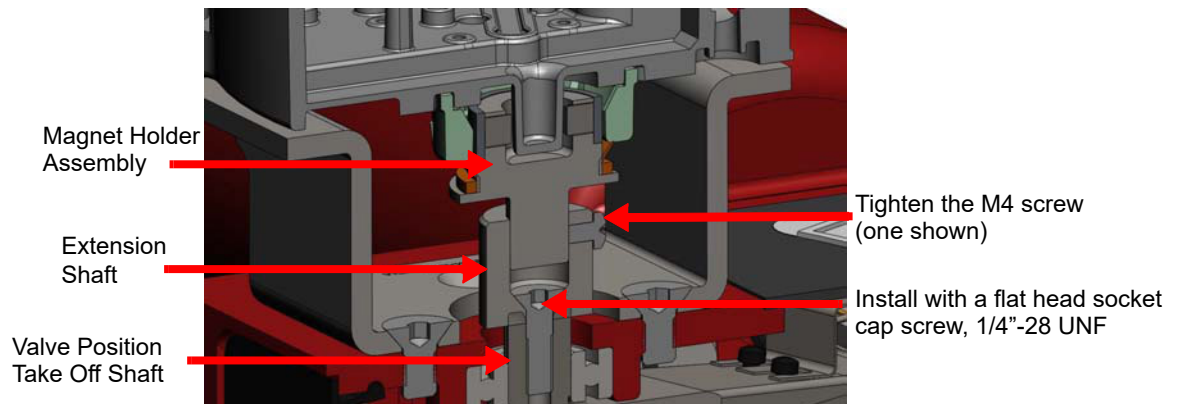

Figure 15 - Extension Shaft to the Valve Position Take-off Shaft
2. Bolt the extension shaft to the valve position take-off shaft (Figure 15).